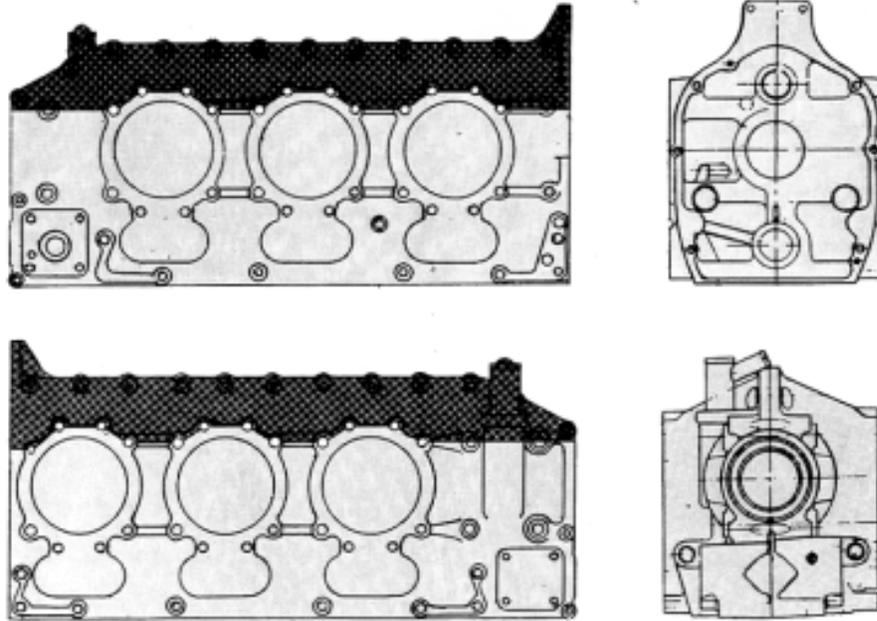

FIGURE 21-3. INSPECTION OF CRANKCASE CRITICAL (GRAY) AND NON CRITICAL (DARK GRAY) AREAS
Critical (gray) and non-critical areas are illustrated in Figure 21-3. If a crack is observed in any of the non-critical (dark gray) areas that is less than two (2) inches in length, the crack should be scribe marked at its extremities and re-inspected for crack progression at the next 50 hours of operation. If no progression is observed and no additional cracks are found, continue to inspect at regular intervals not to exceed 100 hours duration.